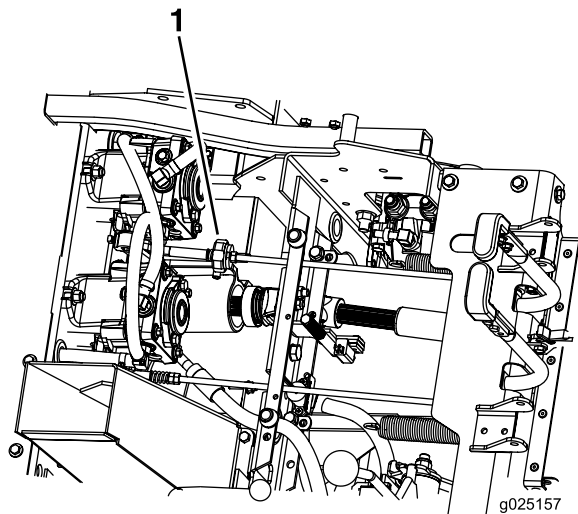

Figure 44
6. Check and ensure that the machine does not creep when in neutral with the parking brakes disengaged (Figure 44).